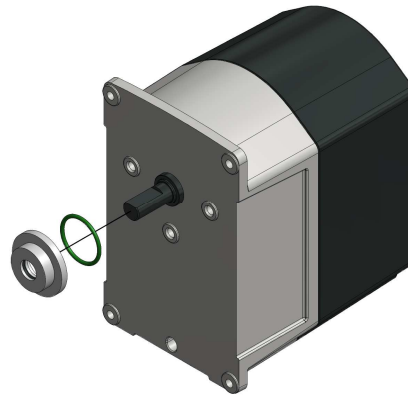

Figure 3: Shaft Seal Assembly
3. Place the shaft seal O-ring into the annular groove on the back of the shaft seal. Then, slide the shaft seal over the actuator shaft as shown in Figure 3. Make sure that the shaft seal O-ring does not fall out of the annular groove when sliding the shaft seal over the actuator shaft.